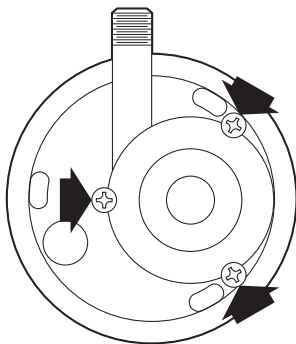

Figure 15
3. Remove three (3) front screws as indicated by the arrows in Figure 15 and then remove the volute (cover over the impeller). (Do not remove other screws which may be exposed.)